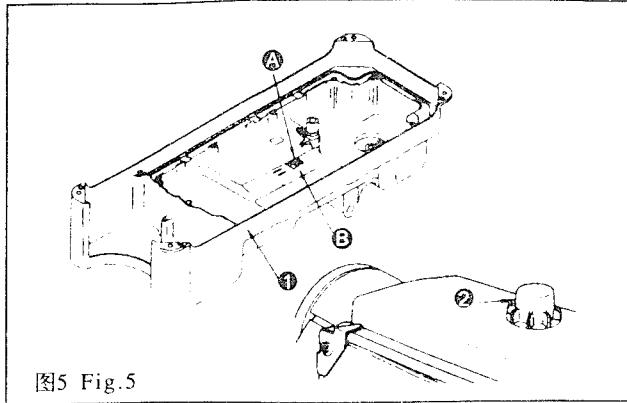
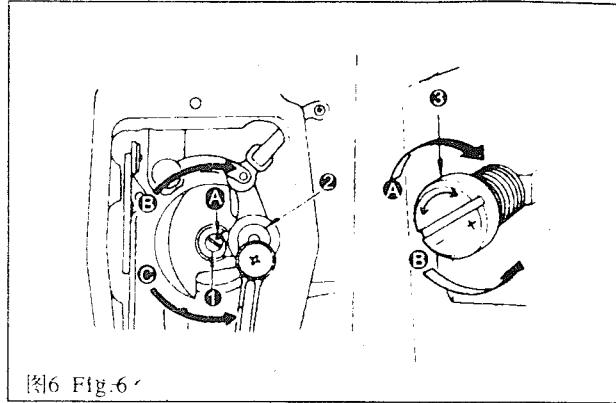

图5 Fig.5
图6 Fig.6
1. 机器的润滑(图5、图6)
1. LUBRICATION (Fig.5, Fig.6)
1. 润滑须知: (图5)
- 1) 向油盘①内加缝纫机油(10号白油)至HIGH记号部位A。(图5)
- 3) 加油后, 开动机器, 应看到油液飞溅到油窗②上, 说明润滑正常。
2. 调节面部油量: (图6)
3. 调节旋梭油量: (图6)
1. Information on lubrication (Fig.5)
2. Adjusting the amount of oil supplied to the face plate parts (Fig.6)
3. Adjusting the amount of oil supplied to the hook (Fig.6)